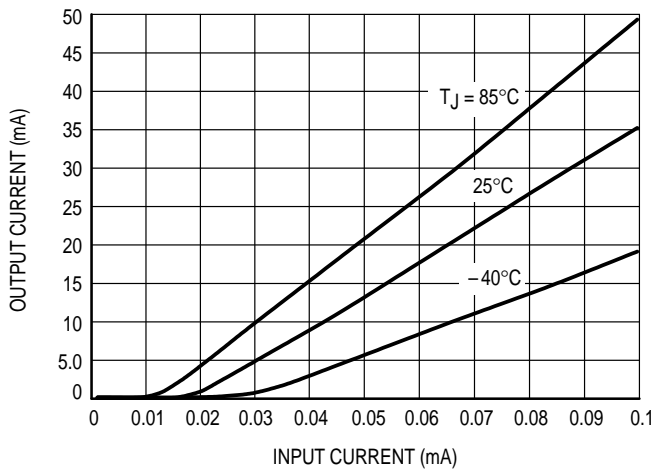

Figure 4. Threshold Effects
5. For levels of input current below $100 \mu A$, use the input threshold curves of Figure 4 to verify that there will be adequate input current available to turn on the MDC3105 at all temperatures.